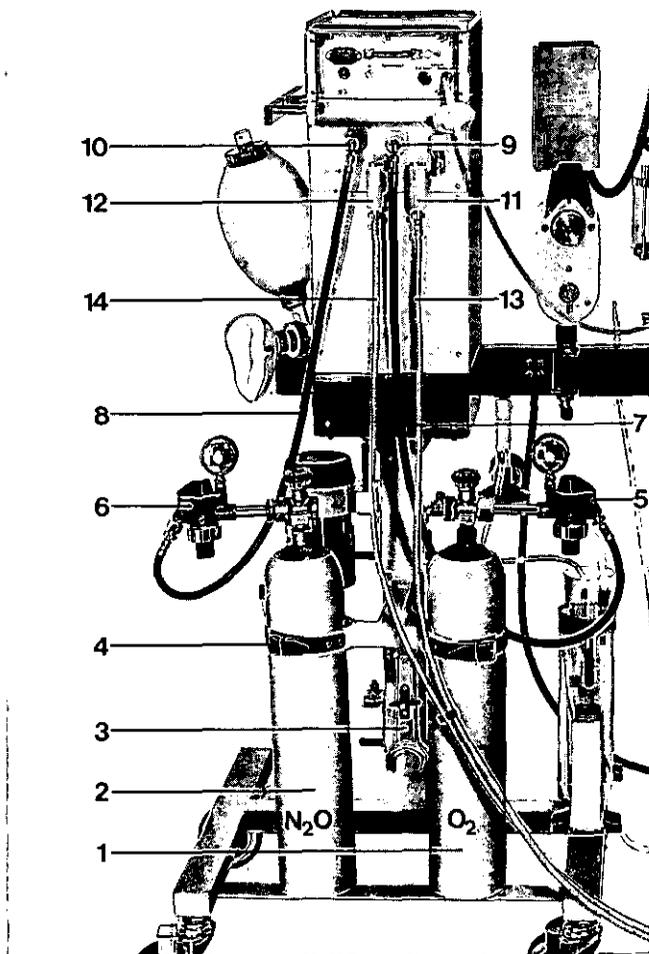
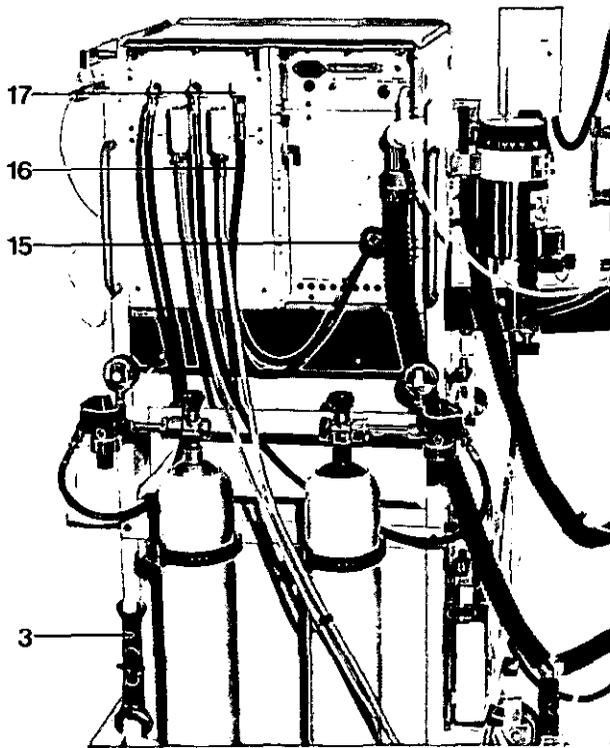

Fig. 4 Sulla 808: Back view, with small cylinders
Fig. 6 Sulla 808 V: Back view, with small cylinders
- Connection of 3 L cylinders (for Sulla 808, see Fig. 4; for Sulla 808 V, see Fig. 6).
- CS1)-connection (for Sulla 808, see Figs. 4 and 5; for Sulla 808 V, see Figs. 6 and 7).
(Sulla 808 V, Figs. 6 and 7)
Operation with O2 (Fig. 6):